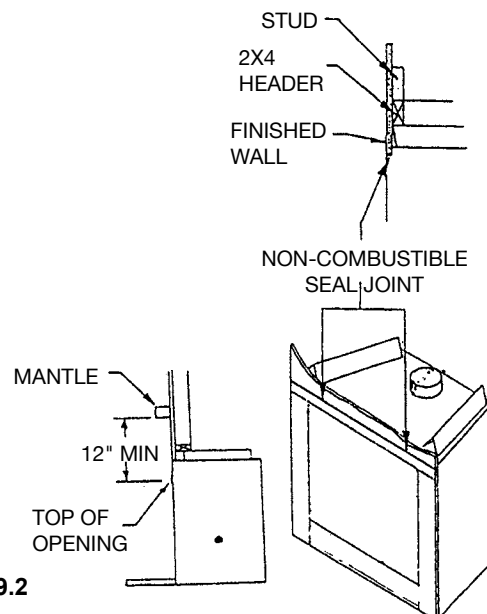

Figure 9.2
Finish the wall with the material of your choice. Do not install a combustible mantle or other combustible projection above the fireplace opening unless it is a minimum of 12 inches above top of fireplace opening. (Figure 9.2)
**CAUTION:** All joints between the finished wall and the fireplace surround (Top and Sides) can only be sealed with non-combustible material. Only non-combustible material can be applied as facing to the fireplace surround. (Figure 9.2)